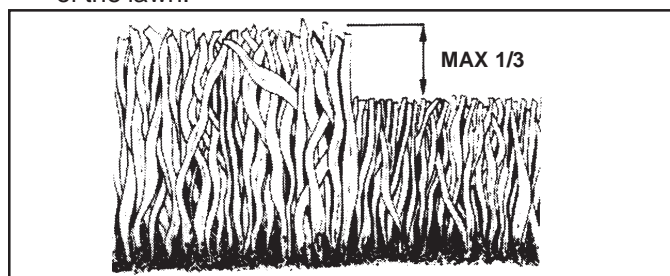

FIG. 10
- For best results, adjust the mower cutting height so that the mower cuts off only the top one-third of the grass blades (See Fig. 10). For extremely heavy mulching, reduce your width of cut and mow slowly.